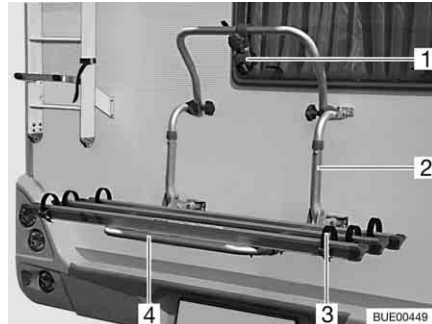

Fig. 5 Bike rack, not lowerable
The bike rack (Fig. 5,2) permits to easily transport 2 bicycles. Expansion for 3 bicycles is possible.
- Fold the telescopic swivel clip (Fig. 5,4) down.
- Place the bicycles on top and secure them with quick straps (Fig. 5,3).
- Fasten the spacer (Fig. 5,1) to the frame of the outermost bicycle.